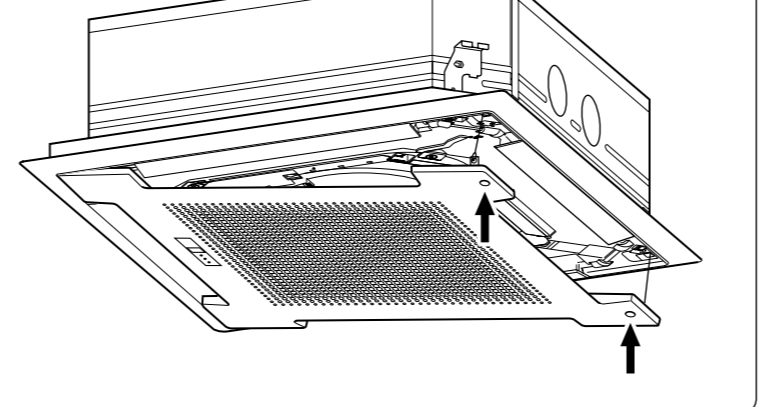

Fig. 51
- Make a notch in the thin part (C) part of Fig. 51) at the remote controller case top and bottom with nippers, file, etc.